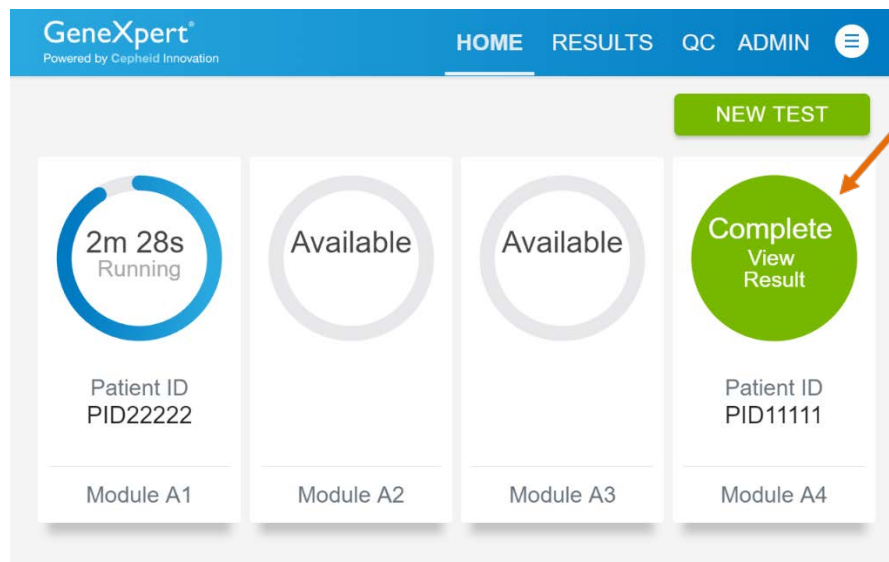
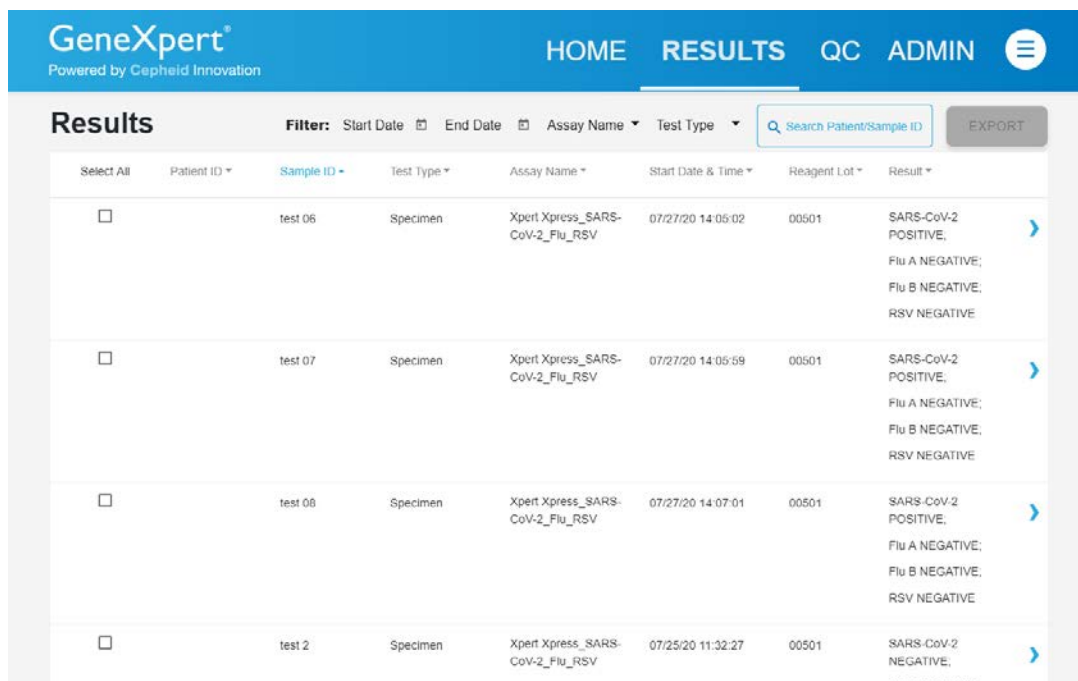

Figure 31. Home Screen with One of Two Tests Completed
Figure 32. Results Screen
5. After a test has completed, the module icon text changes to Complete (see Figure 31). Touch Complete View Result to view test results.
1. Touch the **RESULTS** button located on the panel at the top of the screen (see Figure 31). The Results screen appears (see Figure 32). Test results are, by default, in order of the date and time that the test was run. Navigate through the test result pages by touching the numbered buttons or arrows at the bottom of the screen.